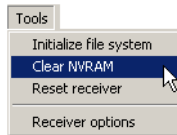

Figure 4-11. Clear NVRAM with PC-CDU
2. Click **Tools** ▶ **Clear NVRAM** (Figure 4-11). The REC LED flashes green and red; the STAT LED flashes red.